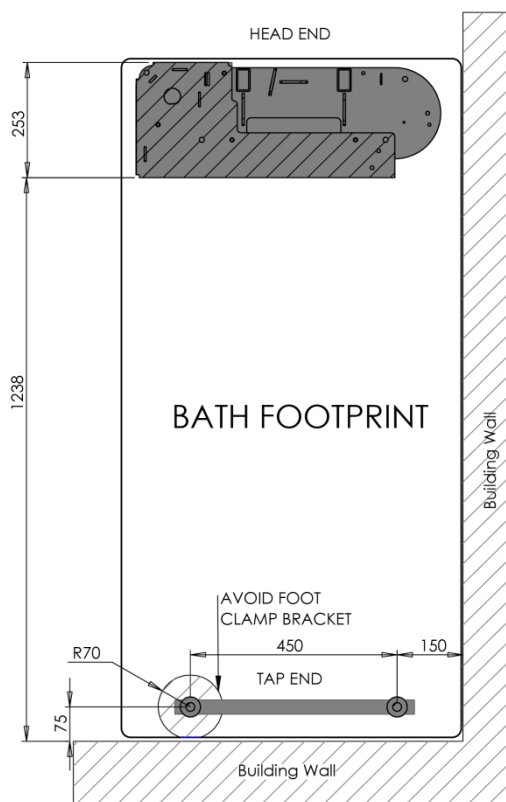
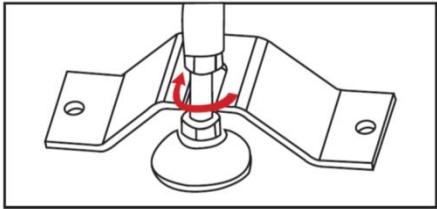

Figure 4.1
Figure 5.1
3) Set the foot frames. Ensure that the space between the feet and base plate is set correctly (see figure 4.1 for dimensional information). The foot base plate must be vertical and upright. Adjust the height of the feet at the 'tap end' of the bath to ensure bath is level in all aspects. Floor finish, (i.e. Altro / Tiling etc.) must be in place prior to installation.
4) With the bath in position, mark the floor where it is to be drilled. See Figures 4.1 & 4.2 for dimensional information. A ‘Top Hat’ foot clamp bracket will secure the bath at the ‘tap end’ of the bath. Position the bracket (Figure 5.1) in the location identified in figure 4.1. Mark the floor fixing locations. For the alternate hand, fit the bracket around the opposite foot. Remove the bath from the working area.